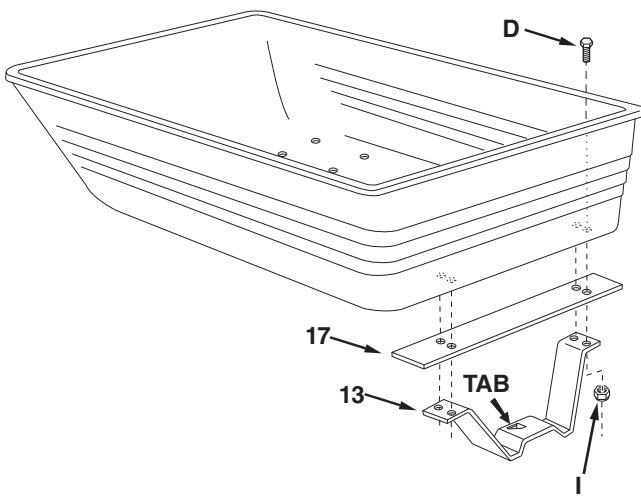

FIGURE 4
- Assemble the latch stand plate (17) and latch stand bracket (13) **WITH ALIGNMENT TAB TOWARD REAR OF CART** to the cart tray using four 1/4" x 3/4" hex bolts (D) and 1/4" nylock nuts (I). Tighten nuts after all bolts are in place. **DO NOT OVERTIGHTEN.** See figure 4.